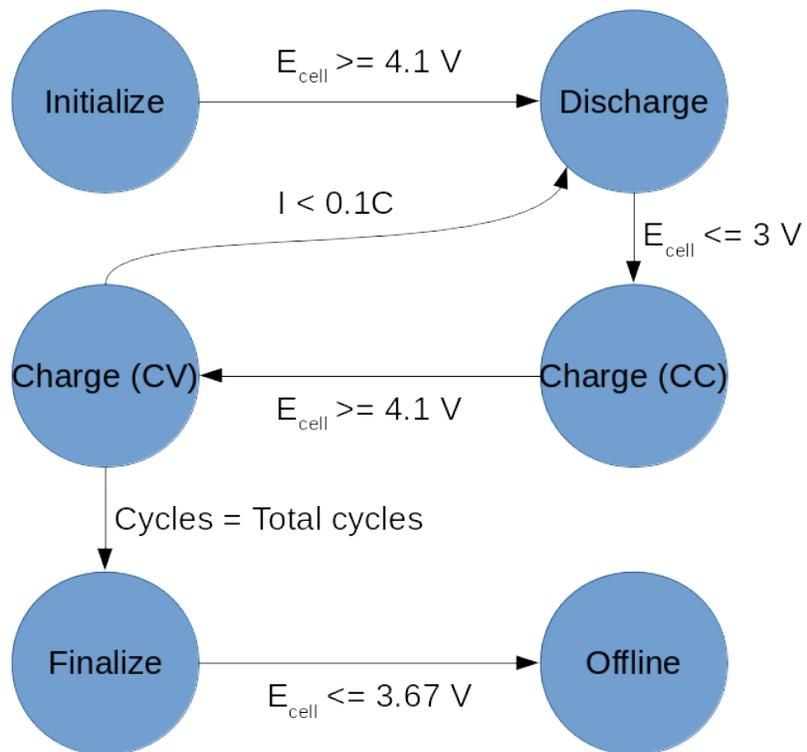

Figure 2: State diagram of the aging state machine.
**Aging** The default operating mode, in which a cell is cycled between two voltage limits at a constant current. When the upper voltage limit is reached, the charging changes from galvanostatic (constant current) to potentiostatic (constant voltage). The constant voltage charging is achieved somewhat crudely by decreasing the current by 20% every time the upper voltage limit is exceeded. This continues until the current falls below 10% of its initial value, at which point the charging is considered complete and the state is changed to **discharge**. When the lower voltage limit is reached, the state changes back to **charge**. Unlike **charge**, there is no constant voltage period in the **discharge** state. The cycle count is incremented at the end of each charging period, and when the final cycle is complete the state machine enters **finalize** state, where the cell is discharged to its nominal voltage of 3.67 V and then turned **offline**. Figure 2 shows a state diagram of the aging state machine.